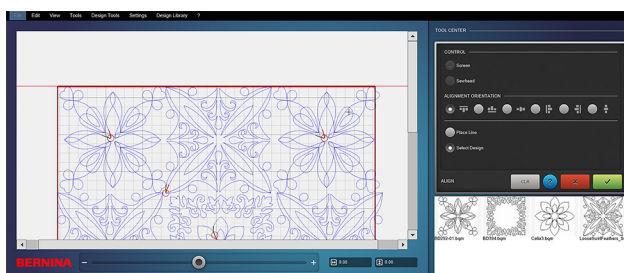

Fig. 77
3. After the line is placed, tap the Select Design function. Touch each design in the first row and they will snap to the top of the grid (Fig. 77). Confirm with the green check mark.